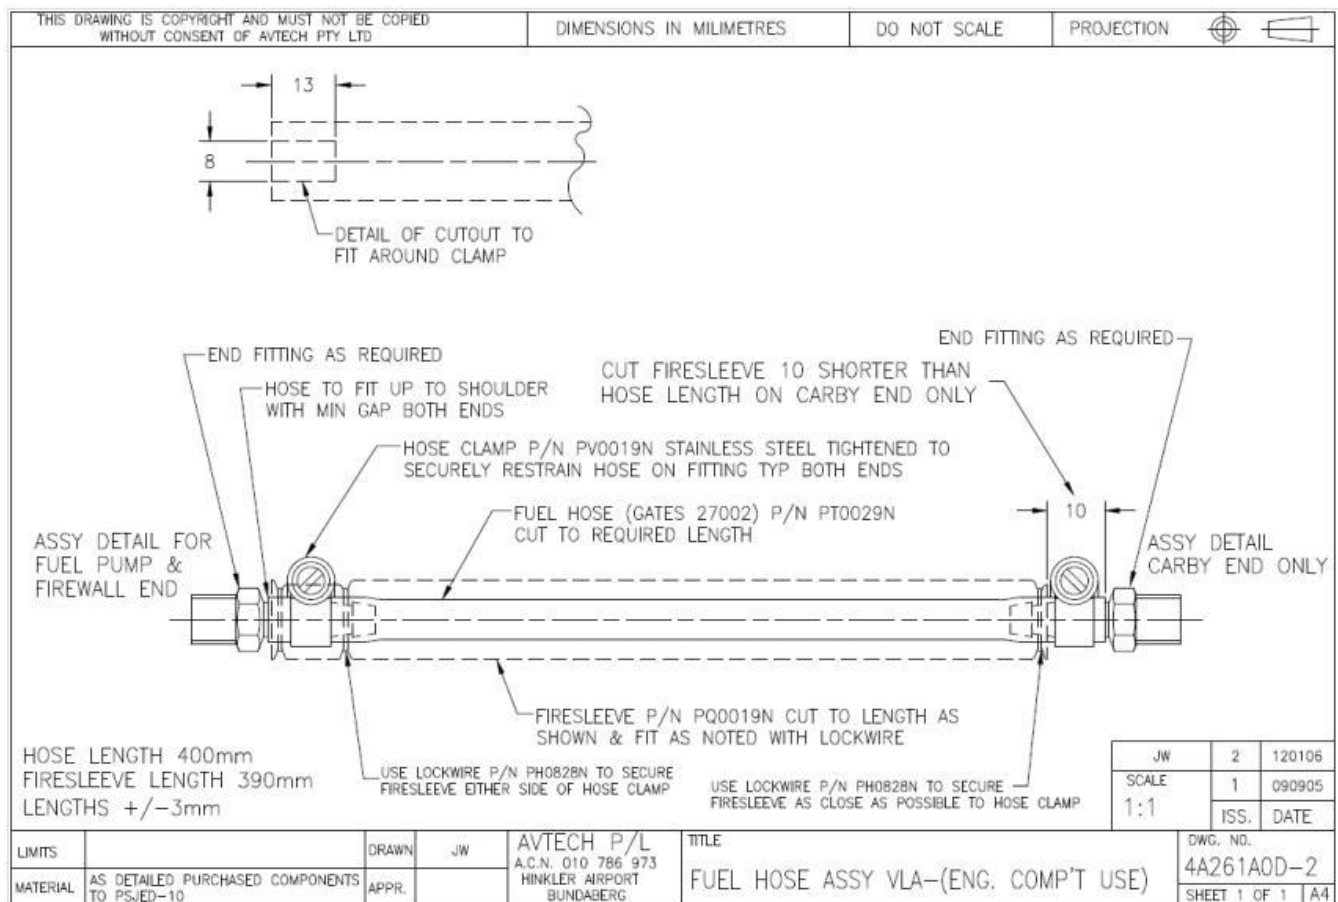

Figure 153 – Fuel Hose Assy – Engine Bay (all J-Series)
- Where fire-sleeve is used ensure it is fitted per Figure 153.